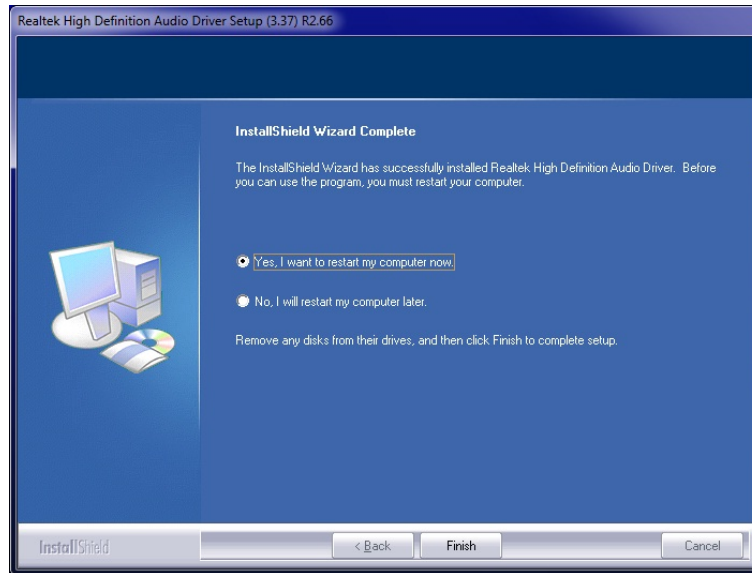

Figure 6-26: Restart the Computer
Step 8: After the driver installation process is complete, a confirmation screen appears (Figure 6-26).